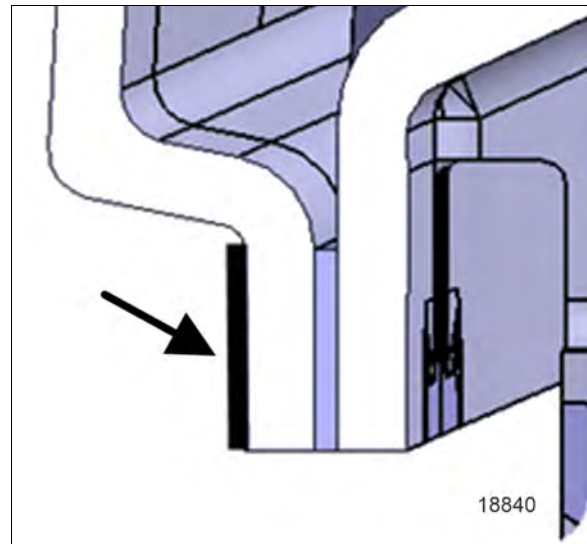

FIGURE 34: ADHESIVE SPREADING
6. Spread the adhesive as shown in Figure 34 and make sure to keep the layer around 1/16" thick.